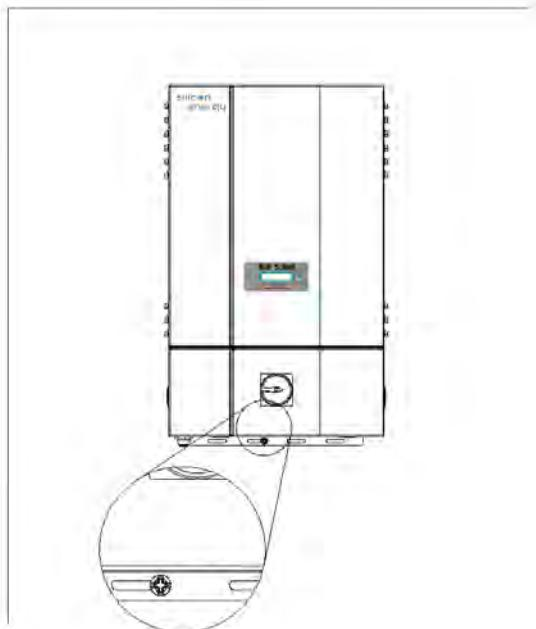

Fig 2.2.4 Hook the Inverter on the mounting bracket and then fasten the screw
- Once the mounting bracket is attached to the wall, the inverter can be located and fastened to the mounting bracket. Slide the inverter over the mounting bracket flanges and down carefully to lock it in place. Attach the screw through the hole as shown in figure 2.2.4 below used to fasten both inverter and the wiring box together to the mounting bracket.